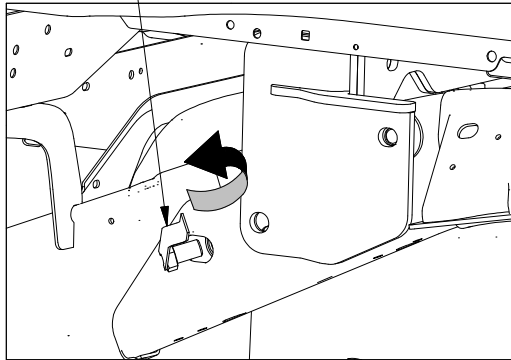

Figure H3: Looking at driver side frame.
- Place bolt guide assembly.** Feed the 5/8" bolt guide assembly into the large frame hole, as shown in Figure H3, so that the bolt sticks out of the frame and through the lower hole in the side plate. Secure this connection with a serrated flange nut.